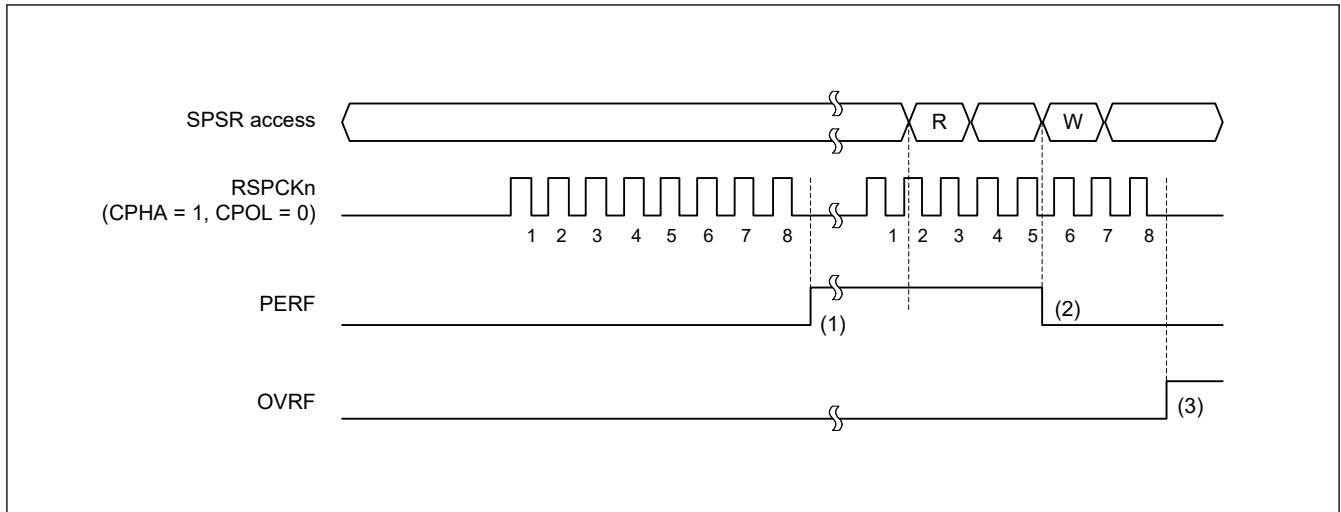

Figure 27.31 Operation example of the OVRF and PERF flags
Figure 27.31 shows an example of operation of the OVRF and PERF flags. The SPSR access shown in Figure 27.31 indicates the condition of access to the register, where W denotes a write cycle, and R a read cycle. In this example, full-duplex serial communication is performed while the SPCR2.SPPE bit is 1. The SPI performs an 8-bit serial transfer when SPCMD0.CPHA bit is 1 and the SPCMD0.CPOL bit is 0. The numbers given for RSPCKn in the waveform represent the number of RSPCK cycles, such as the number of transferred bits.
The operation of the flags at timings (1) to (3) in Figure 27.31 is as follows: